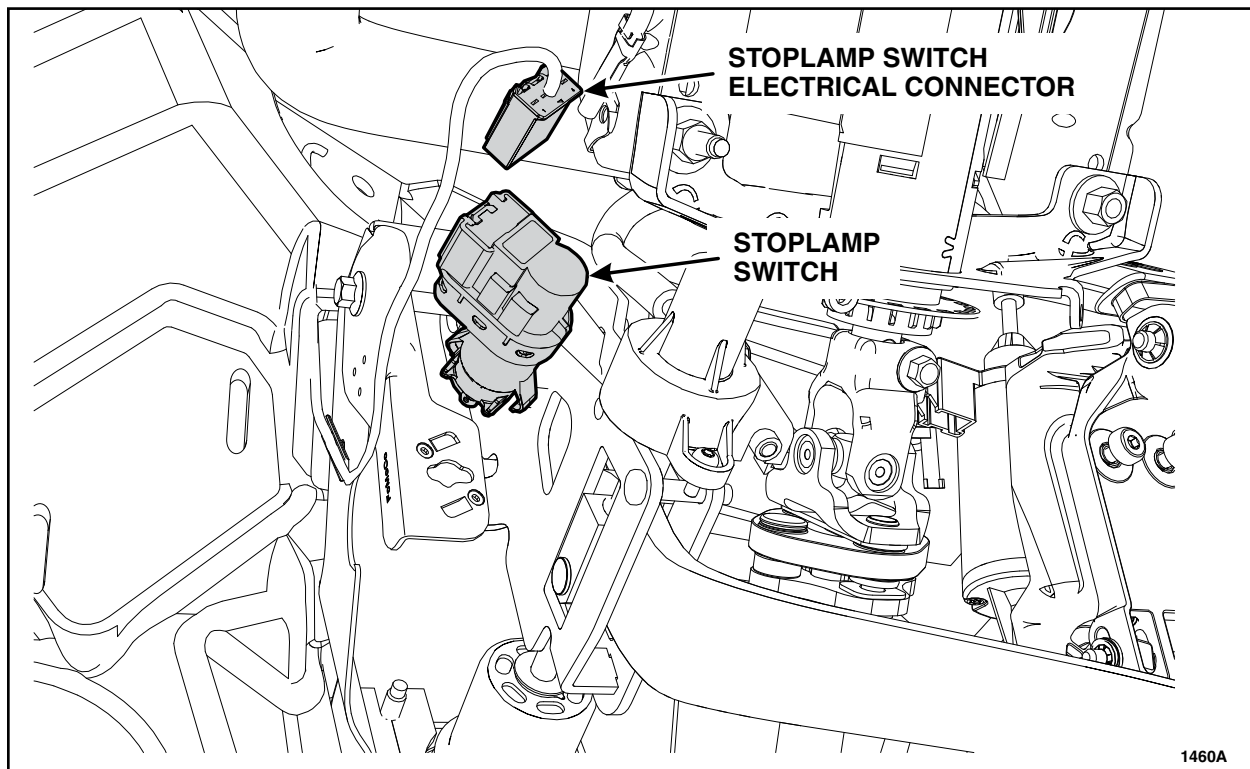

FIGURE 1
1. Disconnect the stoplamp switch electrical connector. See Figure 1.